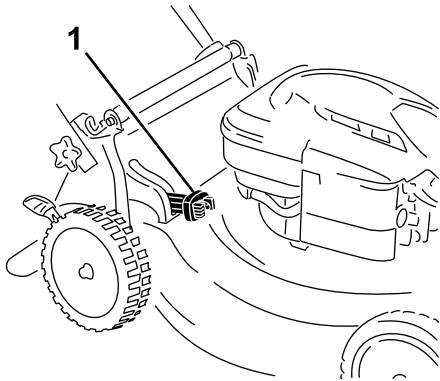

Figure 21
- **To bag the grass and leaf clippings**, press the button on the bag-on-demand lever and move the lever forward until the button on the lever pops up (Figure 21).